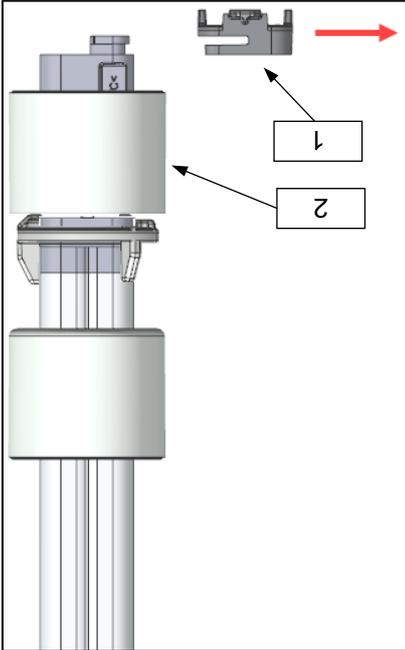

Figure 8
- ▶ By turning the float (Figure 8, item 2) through 180°, the switching function normally open to normally closed or normally closed to normally open can be subsequently inverted. Only the switching function normally open or normally closed can be inverted.
- Only the float at the empty signal switching point (S1) can be turned. This function is not possible with the float (Figure 8, item 2) of the pre-empty switching point (S2).
- The respective switching function selected can be identified by the colour marking of the float (Figure 8, item 2):